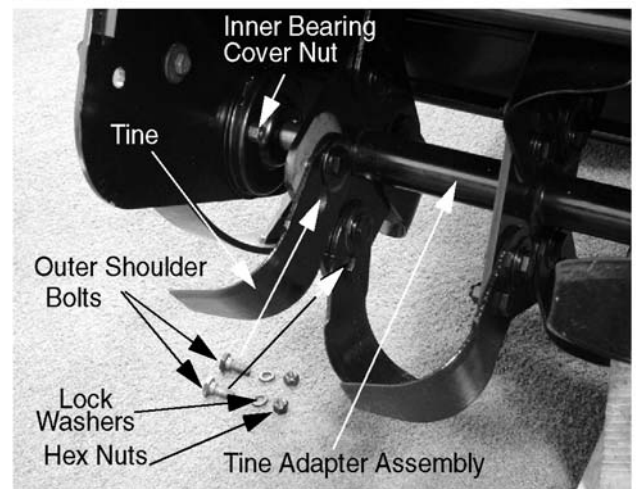

Figure 8-106.
3. Remove the nuts securing the inner bearing cover to the tiller housing using two 1/2" wrenches. See Figure 8-106.